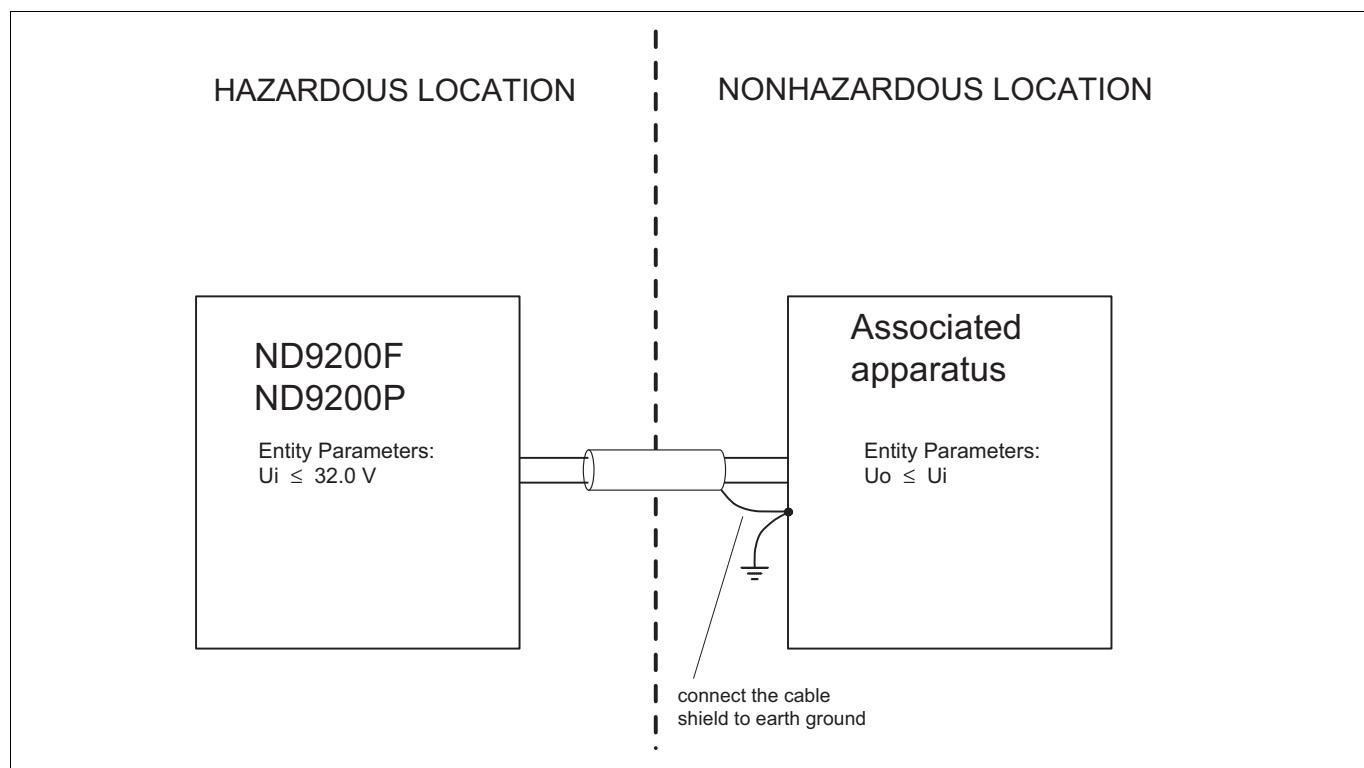

Fig. 13 Control wiring, ND9000F and ND9000P, Ex d
For applications if there is e.g. heavy vibrations, environment temperature is very high or access is difficult, there is available remote position measurement option. In this kind of applications position sensor is attached to actuator and ND9000 can be installed further away. Pneumatic piping between ND9000 and actuator is done as explained in chapter 4.6 and wiring between position sensor and ND9000 according to Fig. 13.
6. Connect the connector end of the position sensor cable to the ND9000 female connector shown in Fig. 13.